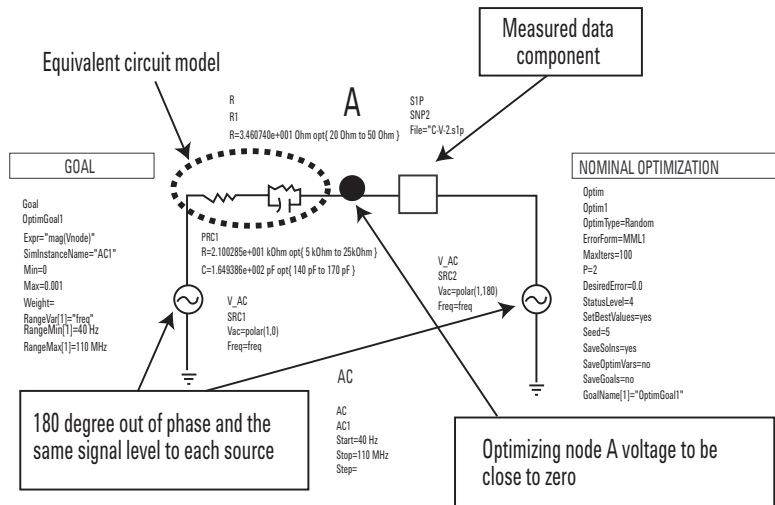

Figure 18. Balancing circuit
2. The balancing circuit shown in Figure 18 balances the voltage applied to the equivalent circuit model and the data item component. This is accomplished by applying two signals that are the same fre-
4. The simulation of the three-parameter model is performed in Figure 18, and a model of further complexity is also possible. By taking advantage of simulation tools such as ADS, a complex equivalent circuit model can be easily extracted in a short period of time.